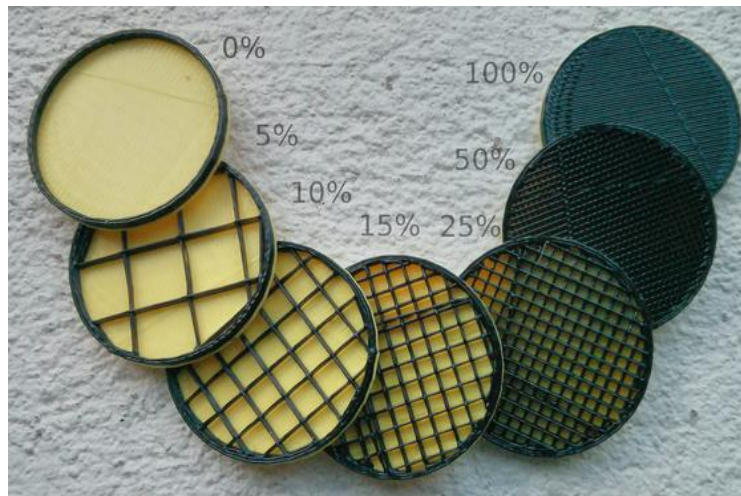

Figure 1: Various infill densities with rectilinear infill.
- Fill density: 0% = hollow, 100% = solid. If you need to make a solid part make sure to change fill pattern to one of the options listed under top/bottom fill pattern. See Figure 1 below.